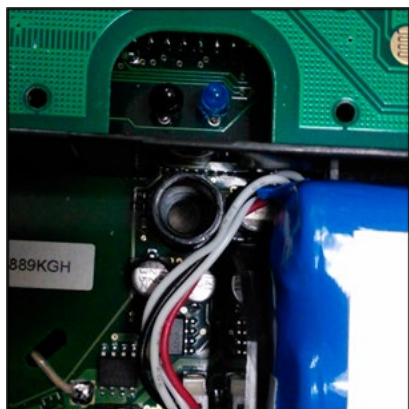

Figure 9
10. Place the replacement battery into the compartment provided for it within the PEL. When doing this, ensure that the battery's connector wires are positioned as shown in Figure 9 below.